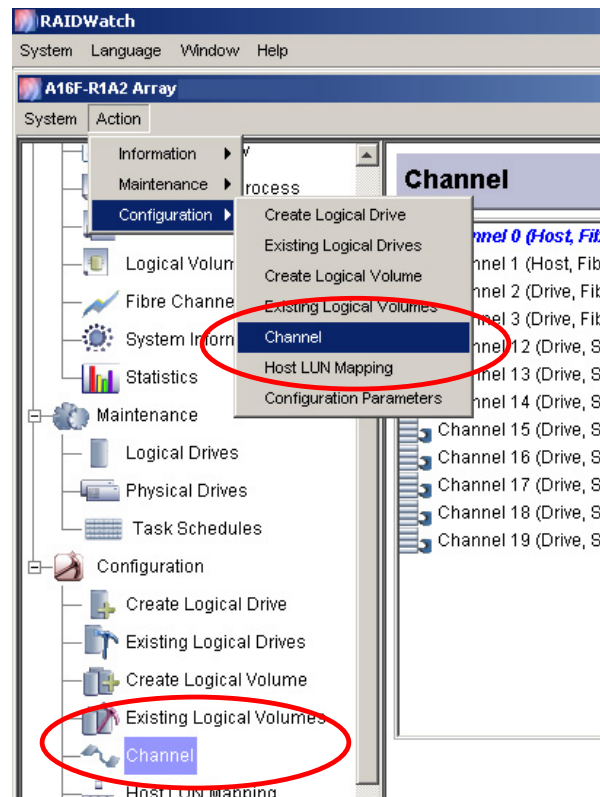

Figure 8-1: Accessing Channel Configuration Window
To access the **Channel** window, use either the command from the Action menu or select the **Channel** icon from the navigation panel. (See **Figure 8-1**).
-  **Step 1.** Single-click under the **Channel** window to select a corresponding channel. Channel icons are displayed in the left-side panel of the configuration window. The Channel Settings configuration will appear as two separate pages on the right side: **Parameters** and **ID**. (See *Figure 8-1*).